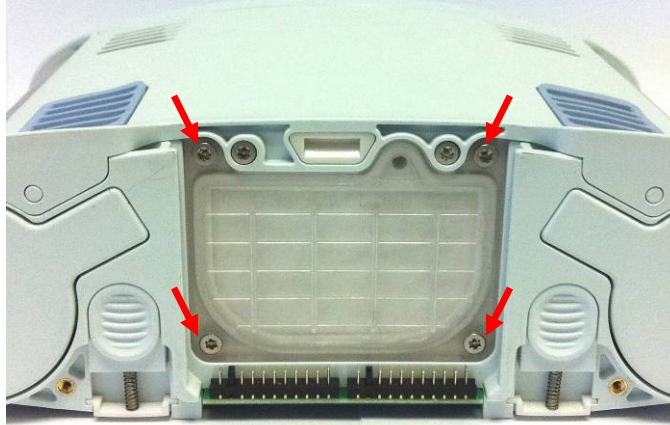

Figure 6: Filter box lid screws
2. Lay the unit on its back side. Unscrew the four screws that attach the filter to the filter body and remove the filter from the device (Figure 6). Use a small flathead screw driver to separate the filter from the chassis, if necessary.
3. Replace the filter and the four screws that attach it to the filter body (Figure 6).